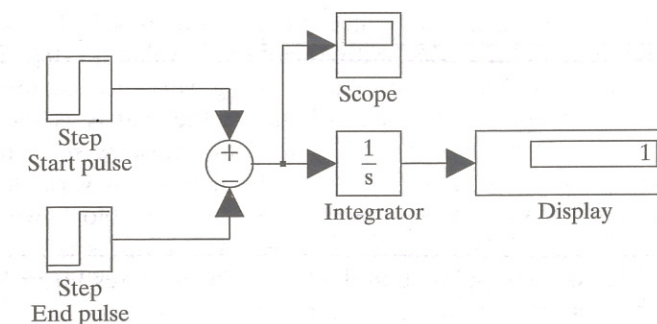
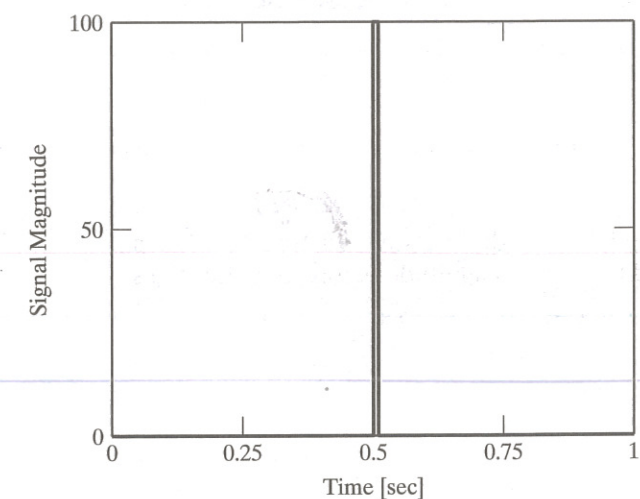

FIGURE 4.5: Generating a unit impulse function
FIGURE 4.6: Unit-impulse signal
You can approximate a unit impulse function using two Step blocks and a Sum block, as shown in Figure 4.5. The idea is to produce, at the desired time  $a$ , a very
The model in Figure 4.5 is set to simulate a unit impulse at 0.5 seconds with a pulse of 0.01 seconds duration and magnitude of 100. The Step block labeled Step Start pulse is configured as follows: **Step time** is 0.5, **Initial value** is 0, and **Final value** is 100. The Step block Step End pulse is configured as follows: **Step time** is 0.51, **Initial value** is 0, and **Final value** is 100. The simulation is configured to stop at 1 second. A plot of the output of the Sum block (sent by the Scope block to the MATLAB workspace) is shown in Figure 4.6. The Integrator block computes the time integral of the output of the Sum block, which is displayed using a Display block, and which has the desired value (1).